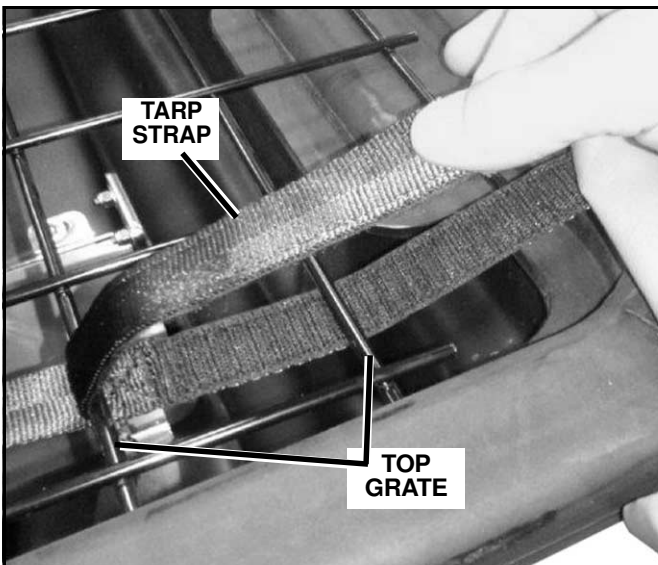

Figure 3
4. There are two retention straps attached under the front edge of the tarp at the front end of the hopper. Loop each strap underneath two bars of the top grate, and route the free end up over the grate. (See Figure 3.)